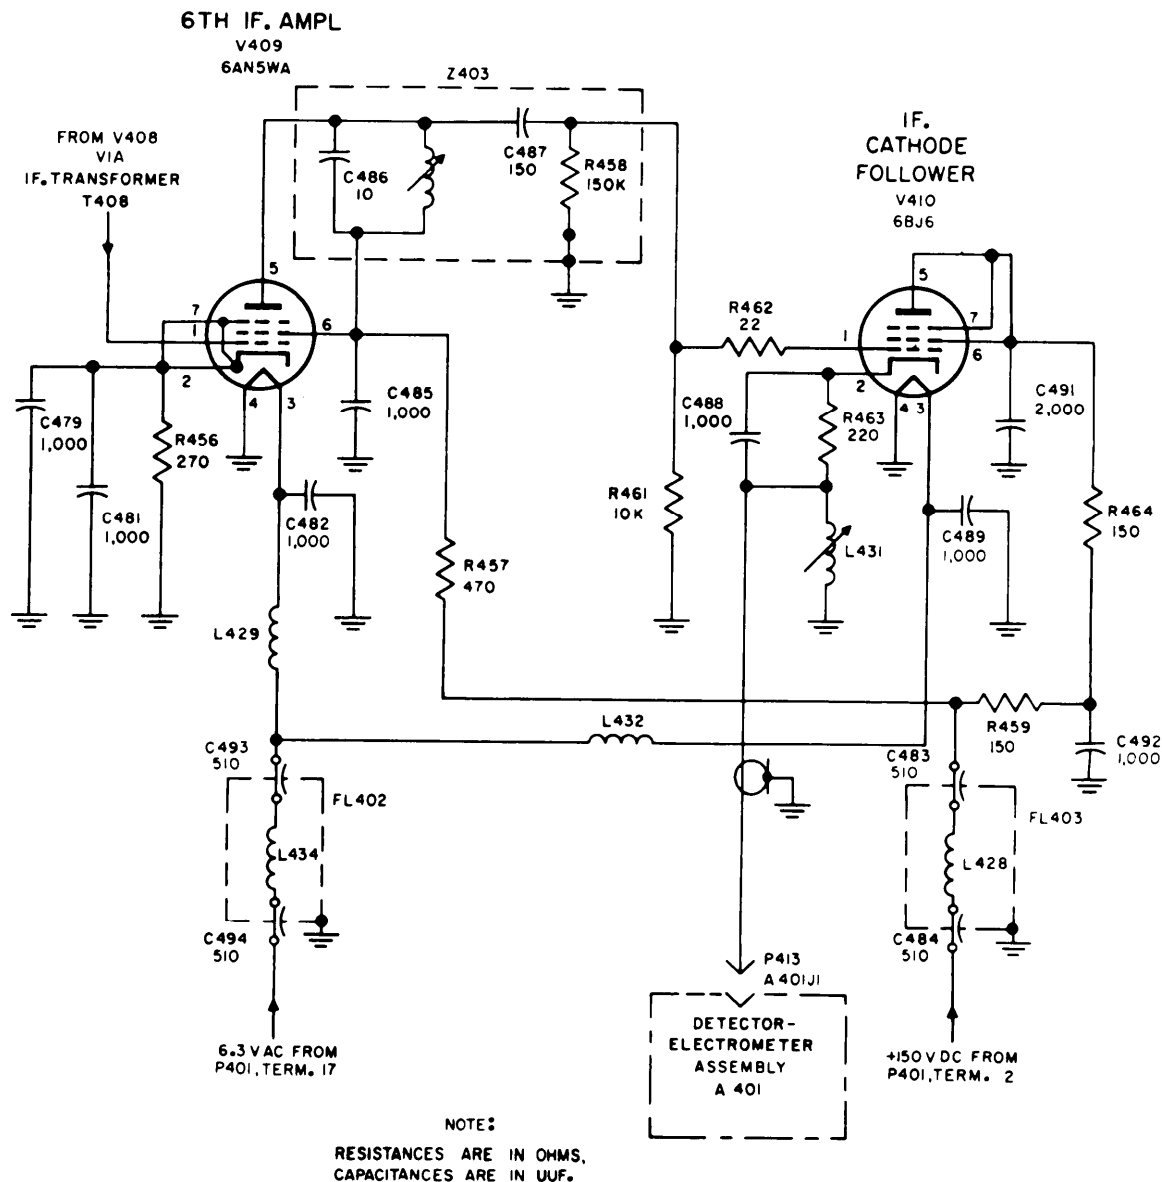

Figure 32. Tuning unit 3, sixth if. amplifier V409 and cathode follower V410, schematic diagram.
c. *If. Amplifier V409* (fig. 32). The amplified if. signal at the output of V408 is inductively coupled to the control grid of if. amplifier V409. This stage is essentially similar to the first three if. amplifier stages (b above), but differs in its tuned plate circuit. The tuned network, Z403, in the output of the final if. amplifier, is single tuned. No set-up transformations required because of the signal gain produced by the previous amplifier stages. Except for the lower value of cathode bias resistor R456 and the plate- and screen-dropping resistor, R457, the circuit description is identical with that of if. amplifiers V406 through V408. The heater circuit of V409 uses an additional decoupling network which isolates the 6.3-volt ac line from the if. and rf currents circulating in the tuning unit. This additional decoupling network consists of filter FL402, which consists of a metallic cylinder enclosing rf choke L434. The choke is encased within the metallic cylinder which penetrates the top side of the if. amplifier subassembly. The outer shield of the filter is soldered to the grounded surface of the wall. Feedthrough capacitor C494 accepts the 6.3-volt ac
d. *If. Cathode Follower V410* (fig. 32). Detailed circuit analysis of the if. cathode follower, which is identical in tuning units 2, 3, and 4, appears in the description of tuning 2 (para 40d). The cathode follower is the final stage in the if. amplifier, which supplies driving power from a low-impedance source to the detectors in the detector and electrometer assembly A401.